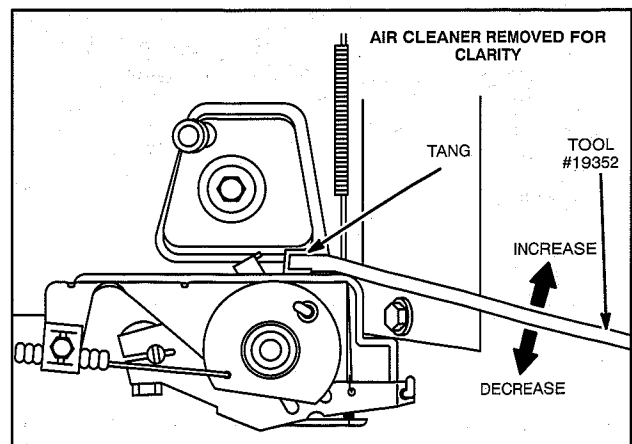

Fig. 15 - Adjusting Top No-Load Speed
8. Move control throttle lever to "FAST" position and check engine RPM with Tool #19200 or equivalent. Bend tang with Tool #19352 to obtain desired Top No Load RPM, (Fig. 15).